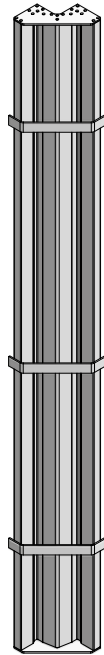
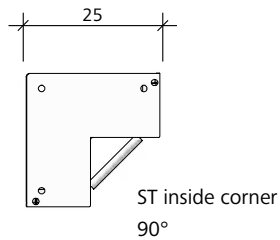

Fig. 37.1
Fig. 37.3
With StarTec XT, a 90° corner can be produced for all wall thicknesses (WT). To do this, three outer-corner sizes (Figures 37.1 and 37.2) and one inner-corner size (Figures 37.3 and 37.4) are available for use in conjunction with standard StarTec XT panels.